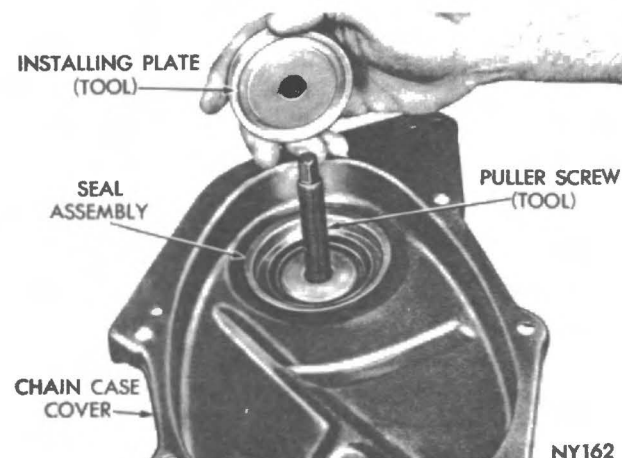

Fig. 23 - Positioning installer plate (Tool CA-3506).
(1) Insert puller screw through removing and installing plate so that the thin shoulder will be facing up.
(2) Insert puller screw with plate through the seal opening (inside of chain case facing up).
(3) Place the seal in cover opening, with neoprene down. Place the seal installing plate into the new seal, with protective recess toward lip of seal retainer (Fig. 23).